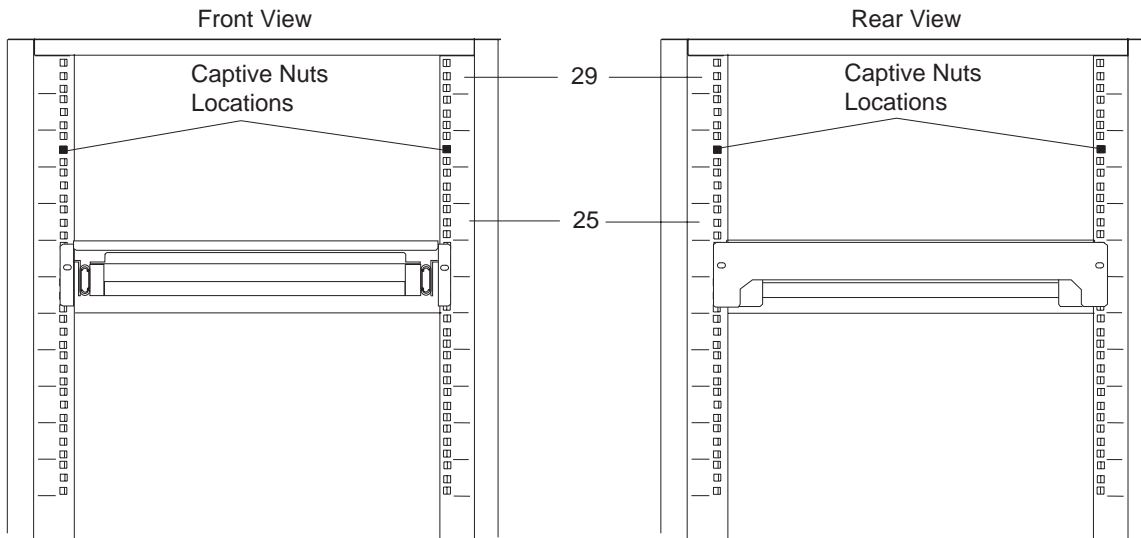
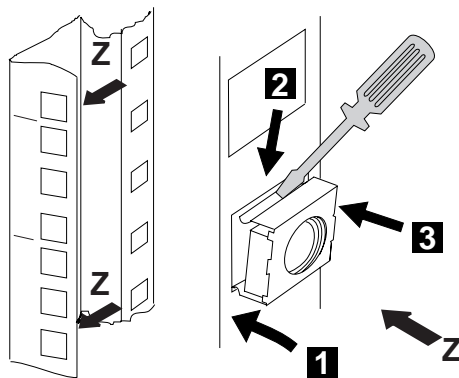

Figure 1-22. Captive Nut Positioning for the NAS with Earthquake Feature in 29 U Rack
Figure 1-23. Captive Nut Installation
1. ____ Install the captive nuts on the rack for installing the NAS. Refer to Figure 1-22 for the front and rear rack location, and Figure 1-23 for captive nut installation.